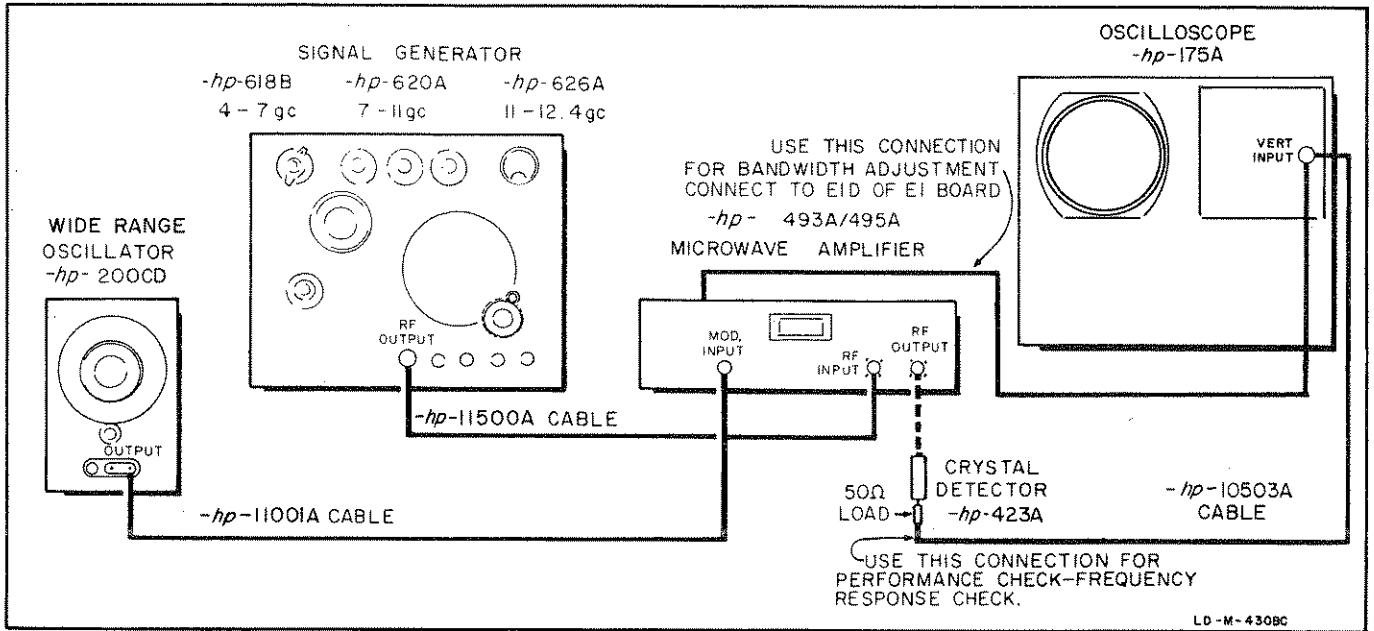

Figure 5-7. Bandwidth Setup
- a. Connect the Model 493A as shown in figure 5-7.
a. Connect the Model 493A as shown in figure 5-7.